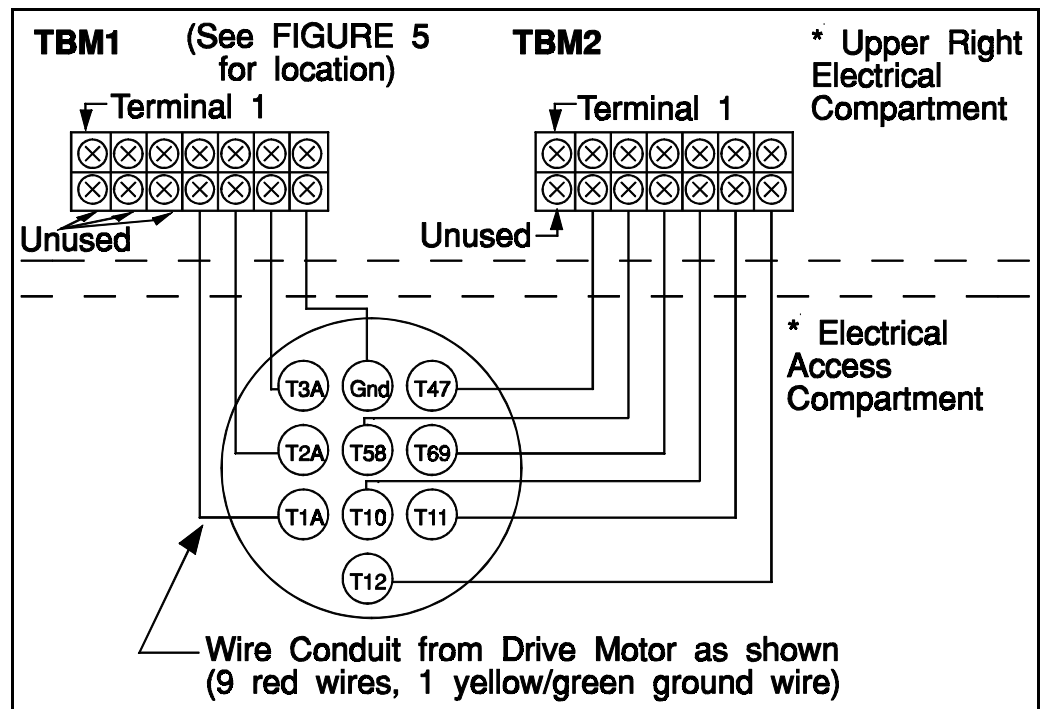

FIGURE 11 (MSIN0108AE)
2. Make connections from the cylinder drive motor conduit (located in the Electrical Access Compartment) to TBM1 and TBM2 (located in the Upper Right Hand Electrical Compartment) as shown in FIGURE 11.